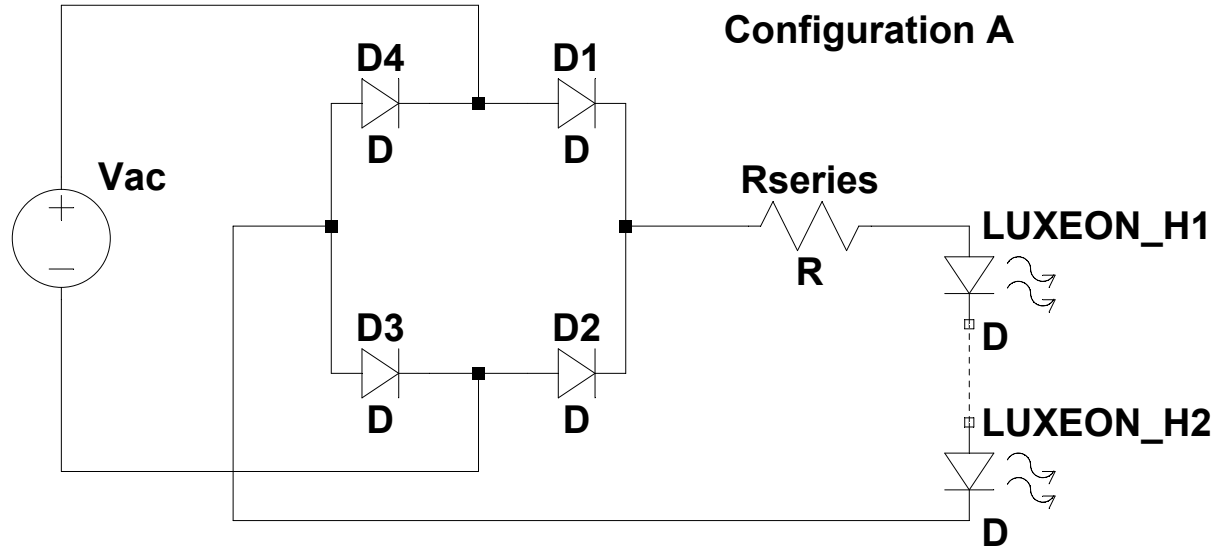

Figure 5. Configuration A, for use with Table I.
1. Configuration A: Resistor in series with LUXEON H LEDs (Figure 5)